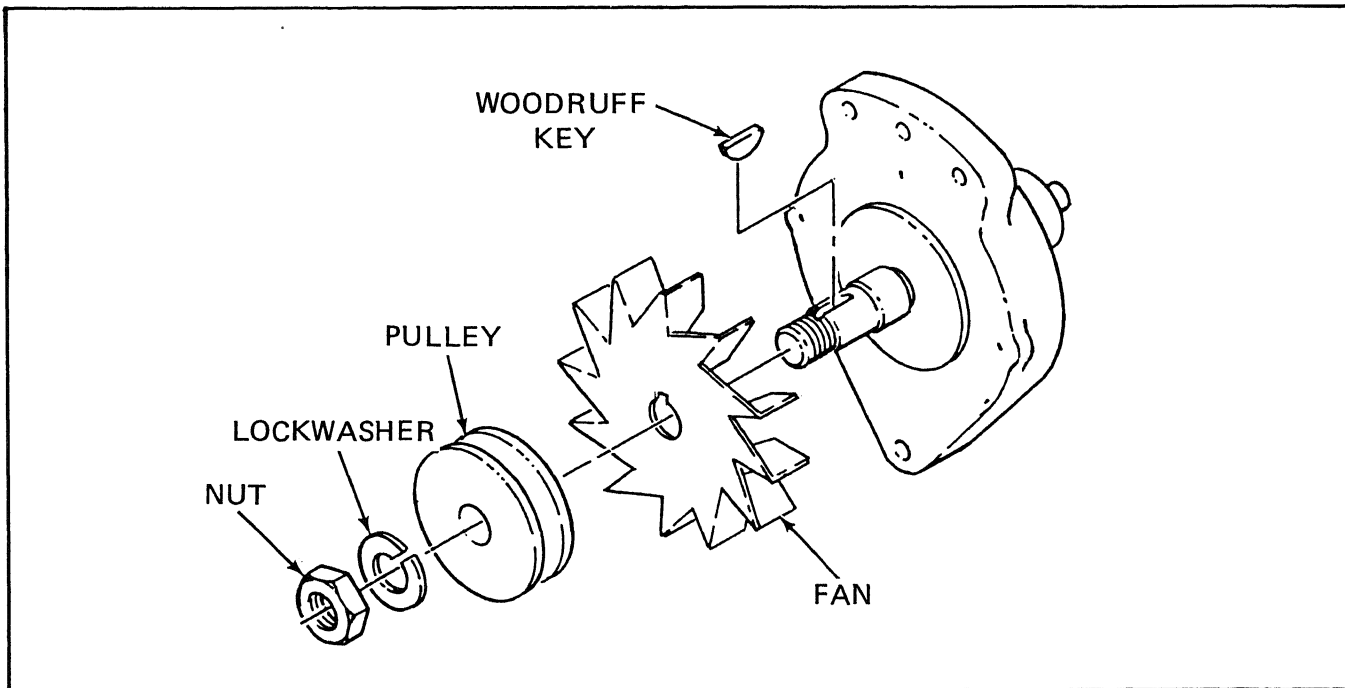
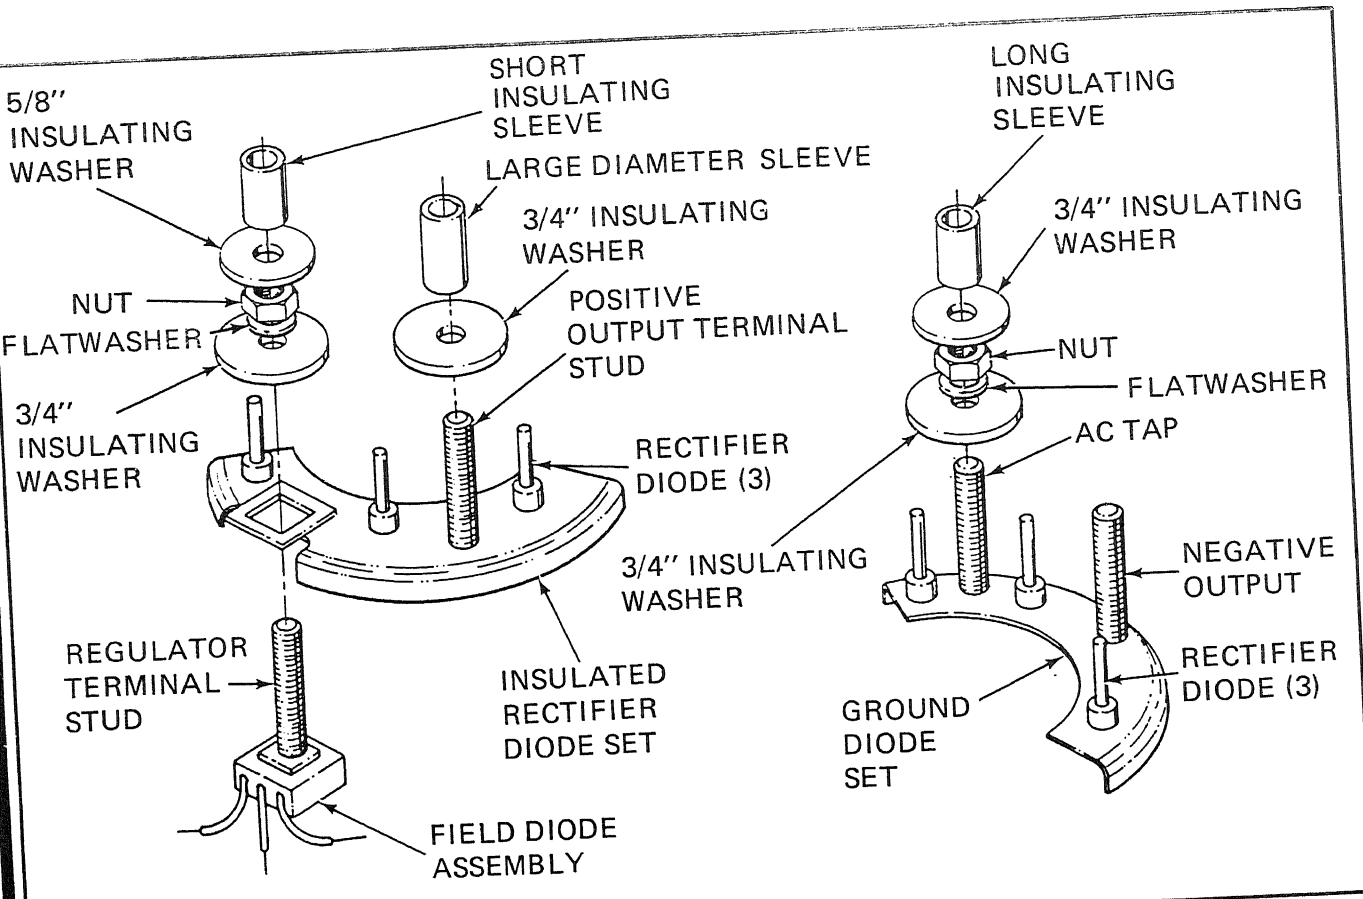
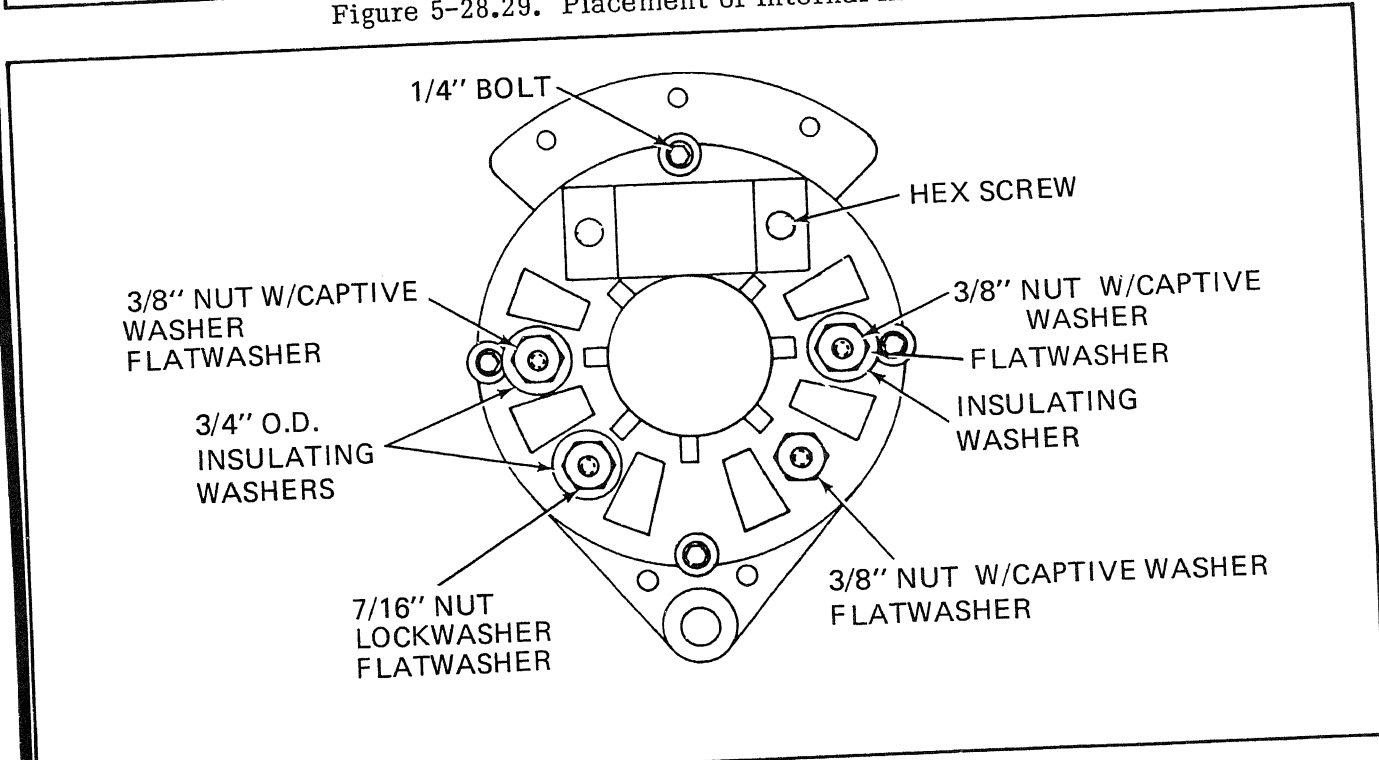

Figure 5-28.13 Fan Removal
Figure 5-28.29. Placement of Internal Insulators
Figure 5-28.30. Placement of External Insulators
- (12) Remove the nut and lockwasher (Figure 5-28.13) to allow removal of the pulley, fan and woodruff key.
- (5) Install the fan, woodruff key, pulley, lockwasher and nut, (figure 5-28.13). Tighten to 40 to 50 ft. lbs. torque.
- (6) Spin the rotor by hand to test the freedom of the bearing.
- (7) Place insulating sleeves and washers over the diode studs as shown in figure 5-28.29.
- (8) Carefully insert the rectifier diode terminal studs through the rear housing.
- (9) Install insulating washers, flatwashers, lockwashers and nuts as shown in Figure 5-28.30.